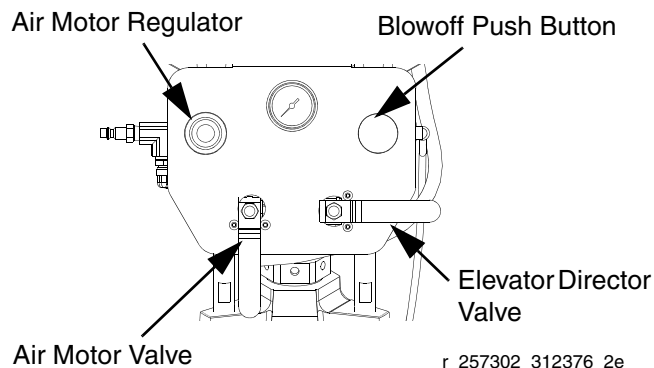

FIG. 10: L20c Air Controls
- Use the air motor regulator (see FIG. 10) to control the pump speed and the fluid pressure. Always use the lowest air pressure necessary to get the desired results. Higher pressures cause premature tip/nozzle and pump wear.